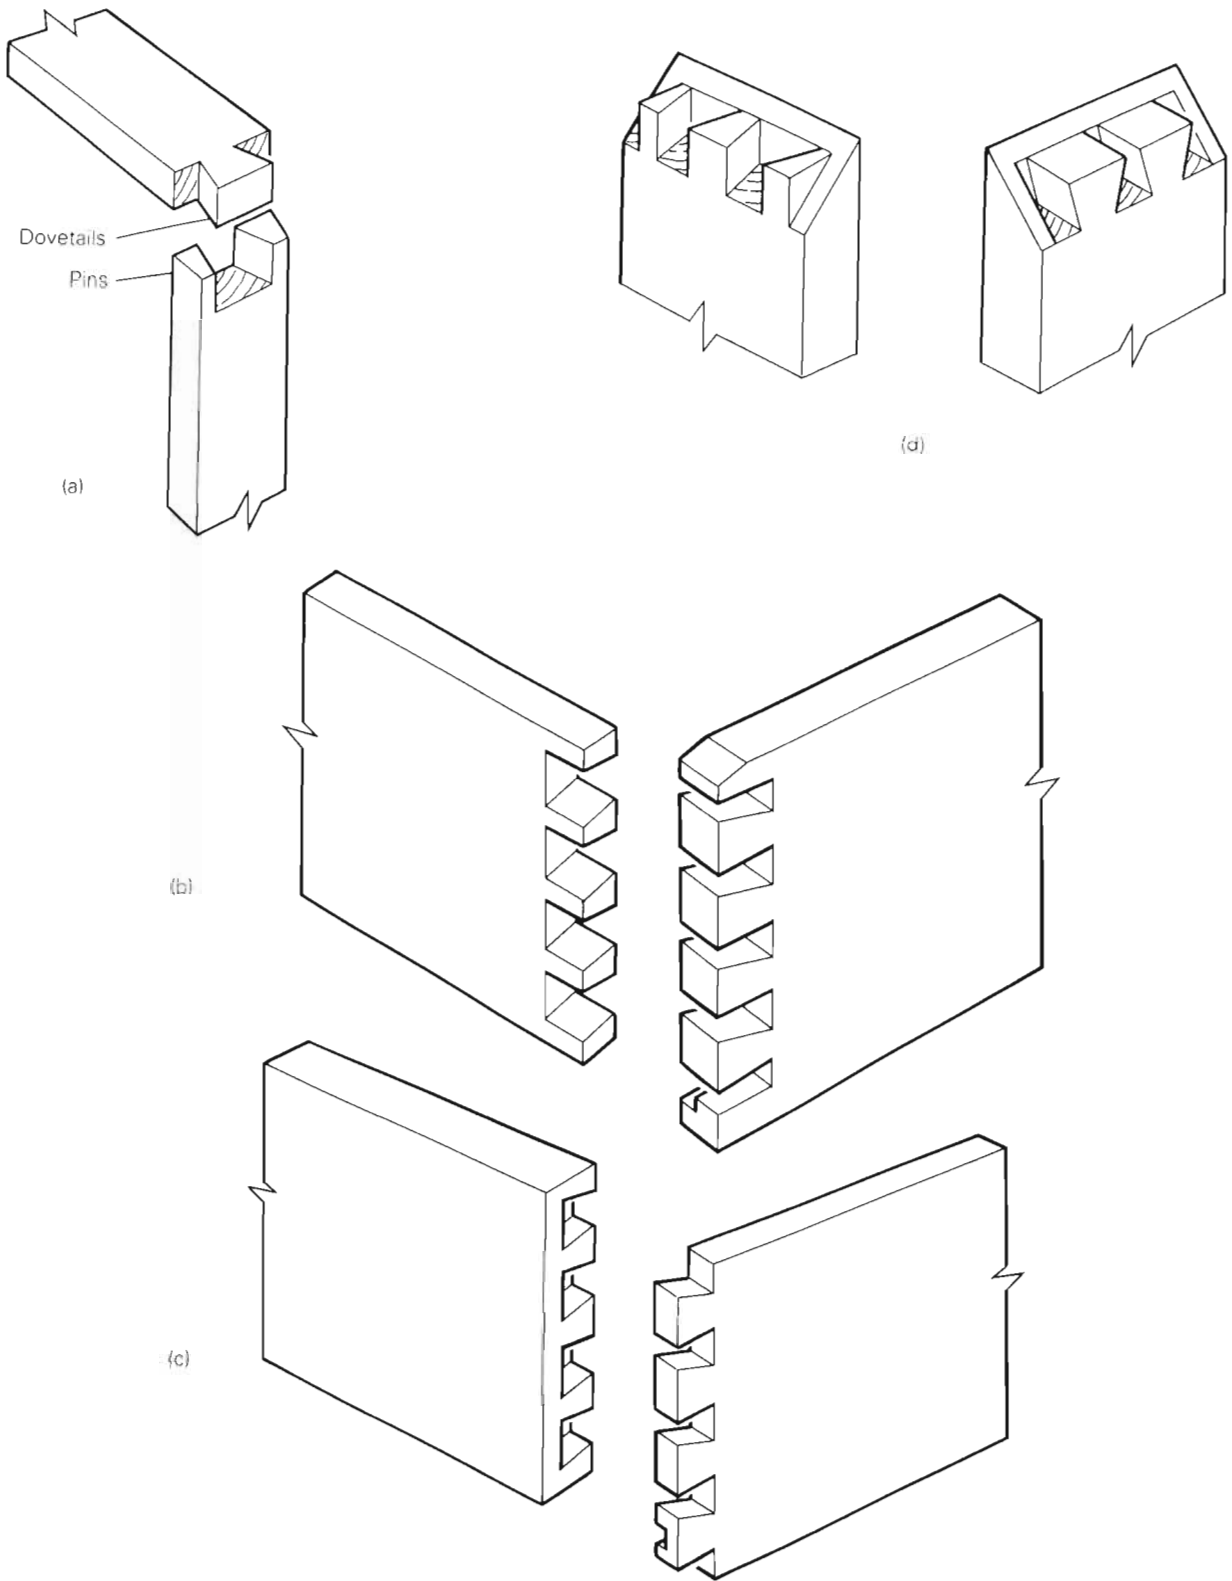

Figure 5.18 Types of dovetail joint: (a) single, (b) common, (c) lapped, (d) secret-mitred.
The **dovetail joints** (Figure 5.17g) are the strongest of all angle joints. Dovetailing is used to join two pieces of board so that one interlocks with the other and can be pulled out only in one direction. The joint is in two parts, the **tail** and **socket**. Both parts have sloping sides that look similar to the tail of the bird from which the joint takes its name. The common types are; single dovetail, common (through) dovetail, lapped dovetail and secret dovetail (Figure 5.18).
3. Using a dovetail template or a sliding bevel set to the required gradient (see Figure 5.18), set out the dovetails on the face side of piece 'B' (side piece). Mark 'X' on the wastes between the dovetails (Figure 5.21b).